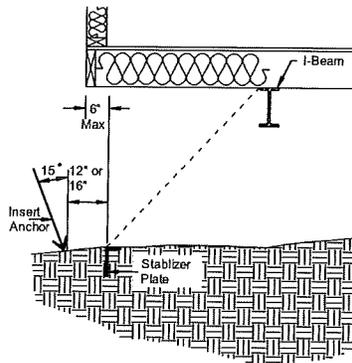

Figure 69. Determining anchor and stabilizer plate location
1. **Locate anchor.** Select a location for the anchor under the home but within six inches of the exterior wall (Figure 69). Avoid locations that will interfere with skirting.